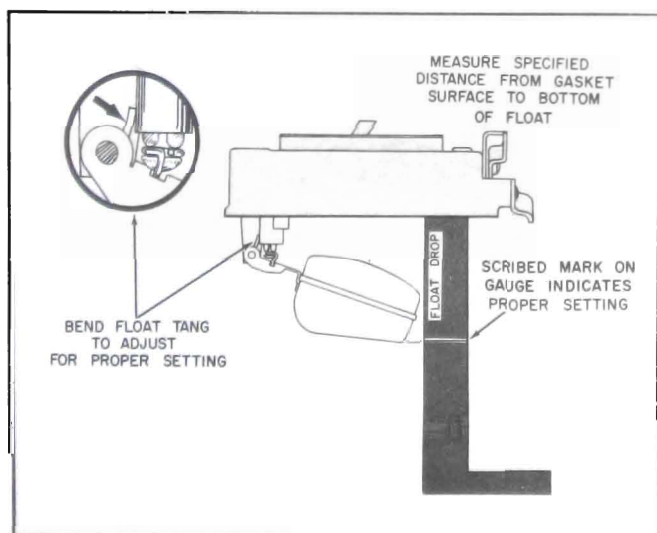

Figure 3-24—Float Drop Adjustment
10. **Adjust Float Drop.** With air horn assembly held upright, measure distance from gasket to bottom of float pontoon at outer end using Float Drop Gauge (1-29/32") as shown. Bend float tang as required to adjust float drop. See Figure 3-24.